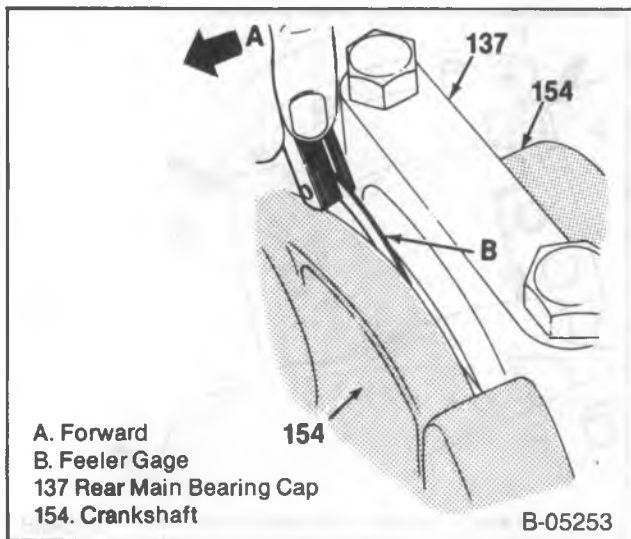

Figure 50—Measuring Crankshaft End Play
**Measure (Figure 50)**
1. Tap the end of the crankshaft (154) first rearward then forward with a lead hammer. This will line up the rear main bearing and crankshaft thrust surfaces.
2. Tighten the rear main bearing cap bolts (138) to 90 N·m (65 ft. lbs.).
3. With the crankshaft forced forward, measure at the front end of the rear main bearing with a feeler gage (figure 50). The proper clearance is 0.002-0.006-inch.
- Crankshaft (154) for binding. Try turning the crankshaft to check for binding. If the crankshaft does not turn freely, loosen the bolts (138 and 139), one pair at a time, until the tight bearing is located. Burrs on the bearing cap, foreign matter between the insert and the block or the bearing cap, or a faulty insert could cause a lack of clearance at the bearing.